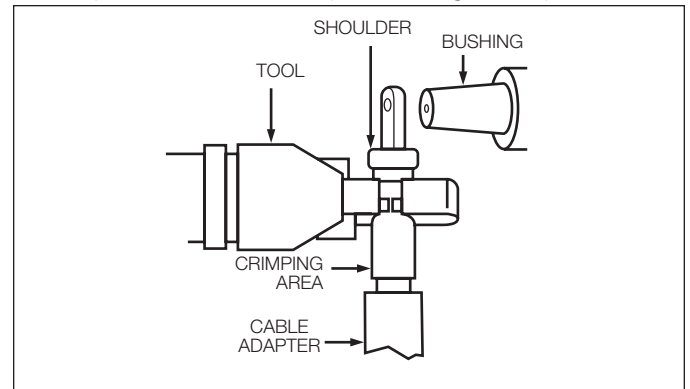

Figure 10.
- Make first crimp 1/2" (13 mm) below shoulder of compression connector. (Refer to Figure 10.)